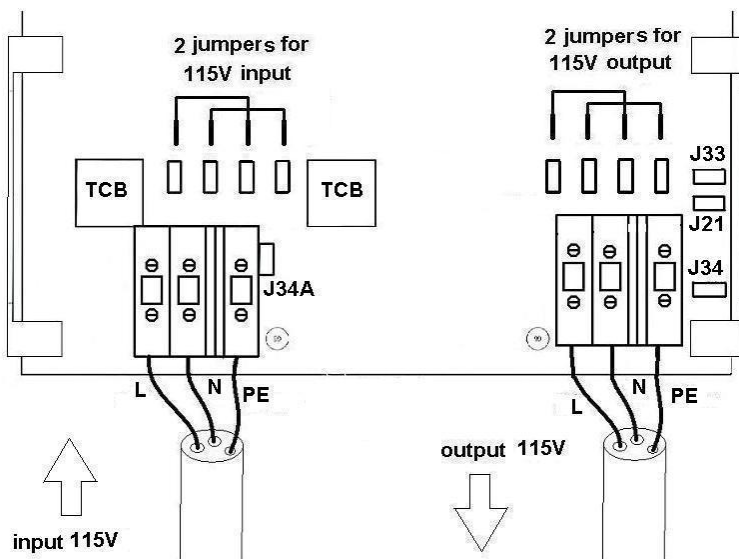

Figure 3: Jumper settings for 115/120 V input and/or output
2.2.2 For 110/120 V input and/or output, connect the push-on jumpers as shown in fig 3.